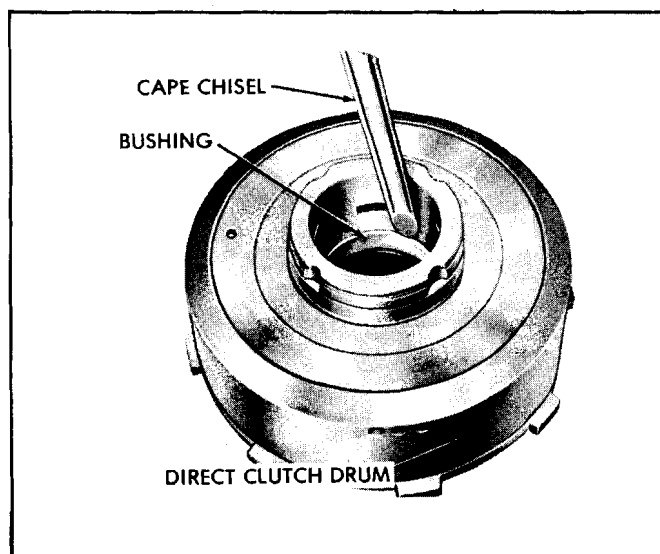

Fig. 7G-103 Removing Clutch Drum Bushing
- b. Using Bushing Tool J 23062-4 and Drive Handle J 8092, install new bushing $9/32$ " below clutch plate side of hub face (Fig. 7G-104).